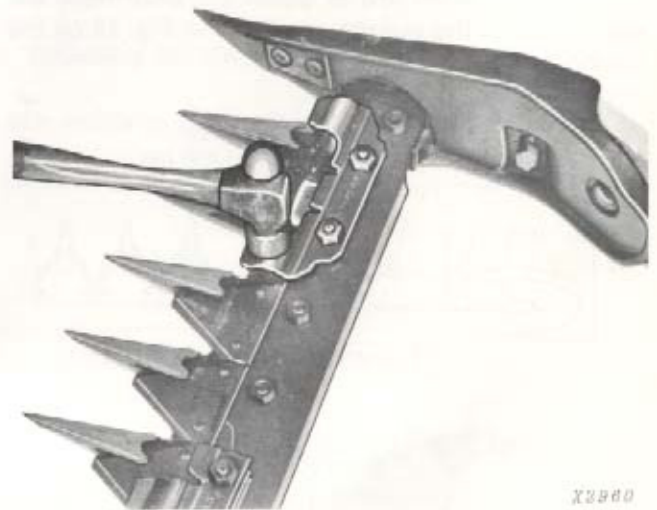

Fig. 18 — Setting Knife Clip Down
(2) The second method involves clips that are not mounted with spacers and must be adjusted with a hammer. To reduce clearance, strike the clip on the top with a two-pound hammer to bend it downward (Fig. 18).